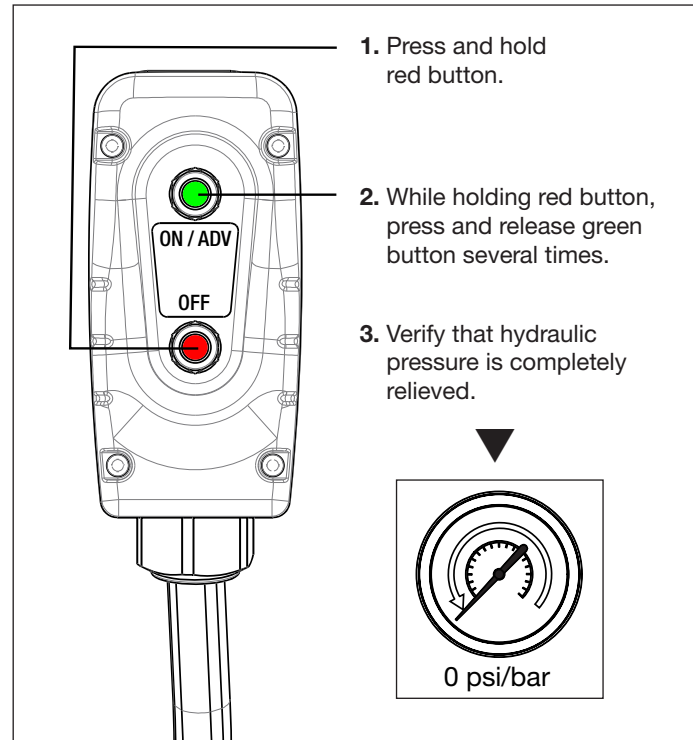

Figure 9: Relieving Hydraulic Pressure
- Press and hold the red OFF button while pressing and releasing the green ON/ADV button several times. See Figure 9.
- Verify that the hydraulic pressure gauge indicates zero (0) psi/bar. Then, release the red OFF button.